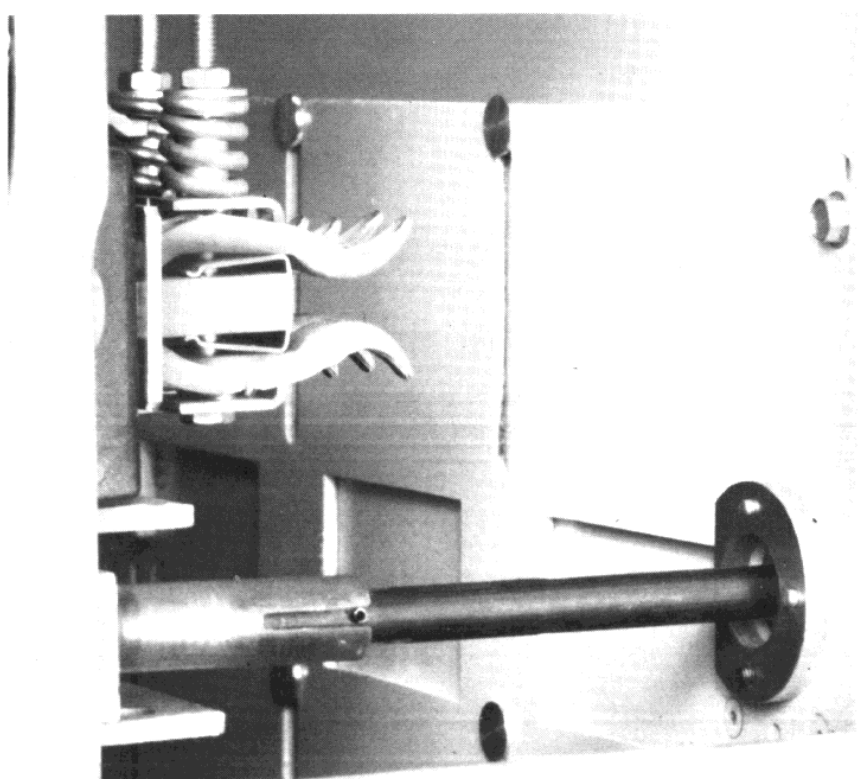

Fig. 4
- Primary disconnect shutters (figure 4)—are optionally available to provide protection against contact with the energized primary disconnects when the breaker is removed from its compartment.